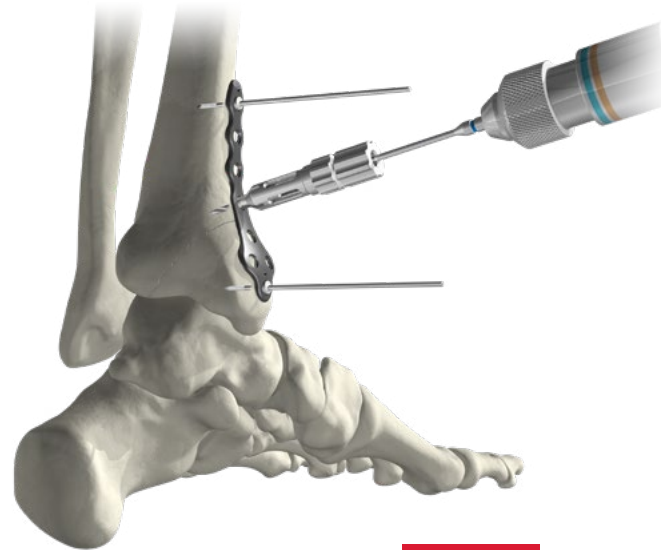

FIGURE 42
3. All plate holes accept 2.7mm, 3.5mm, and 4.0mm locking and non-locking screws. Drill for the desired screw diameter utilizing the appropriate Drill Sleeve placed into the first plate hole nearest the fracture line. Drill the pilot hole with the corresponding drill diameter at the desired angle of approach through the Drill Sleeve (**FIGURE 42**).